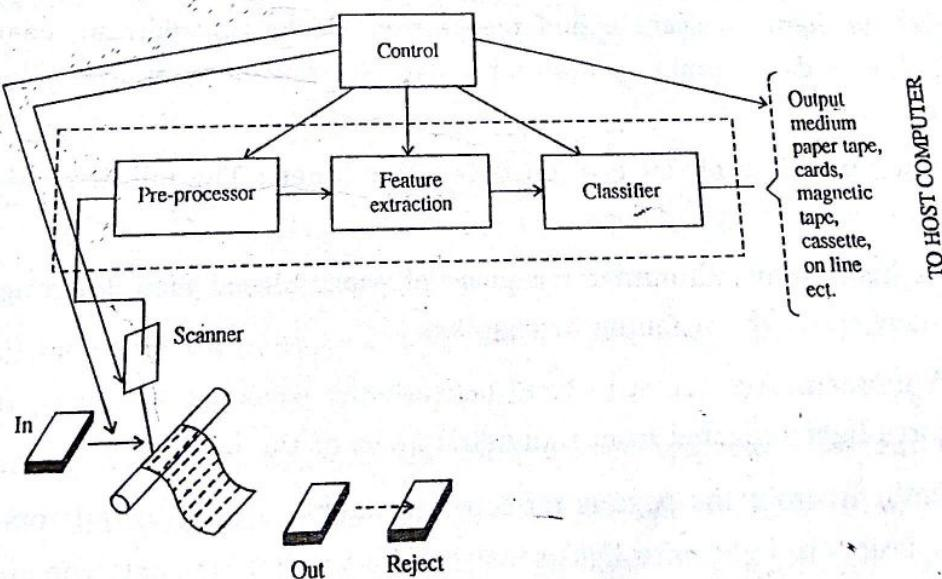

Fig. 1.20 Block diagram of OCR/OMR machine
**Recognition process in OCR/OMR machine :** As shown in Fig. 1.20, the recognition process can be thought of as comprising three stages : pre-processing, feature extraction and classification. There are several recognition techniques in use and these determine the functions performed by each stage.